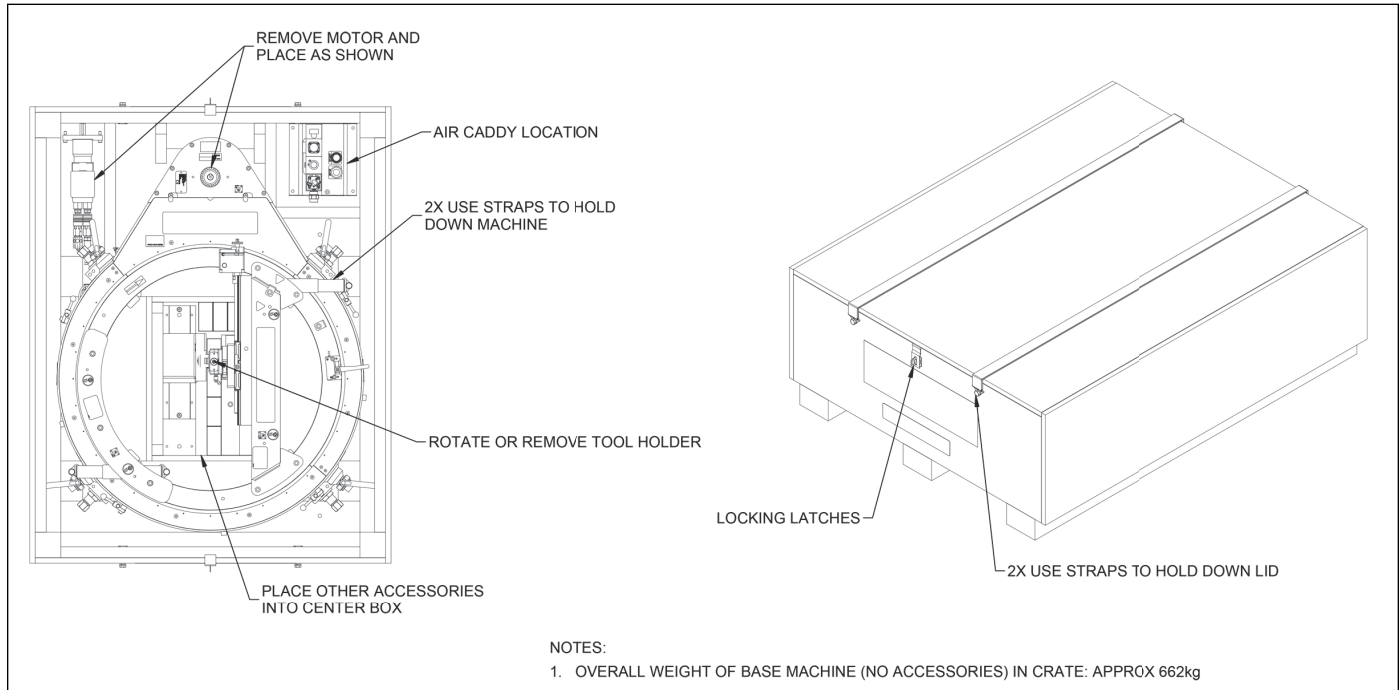

FIGURE 6-1. ODF30 SHIPPING CONTAINER
7. Store the ODF30 Speed Facer in its original shipping box (see Figure 6-1).
The ODF30 Speed Facer can be shipped in its original shipping container, as shown in Figure 6-1.